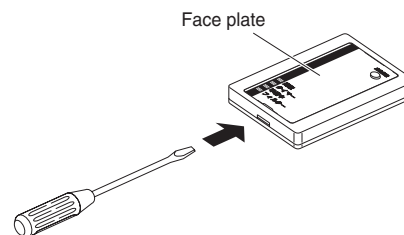

Fig. 3-23
1. Insert a flathead screwdriver or similar tool into the groove on the bottom of the receiver unit. Pry open with the screwdriver and remove the lower case. (Fig. 3-23).